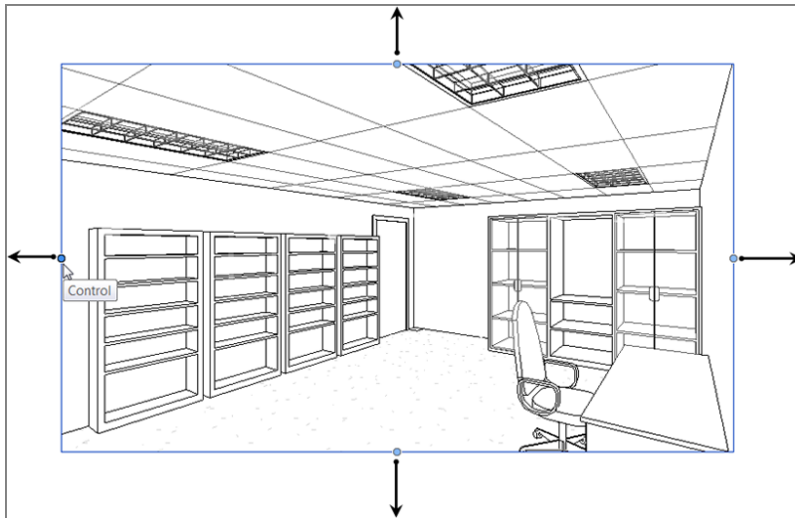

FIGURE 9.52: The perspective of the corner office. If your entertainment unit is backward, you'll have to go back to the plan to rotate it.
5. See Figure 9.52 to get an idea of how to stretch the window to show more of the perspective.